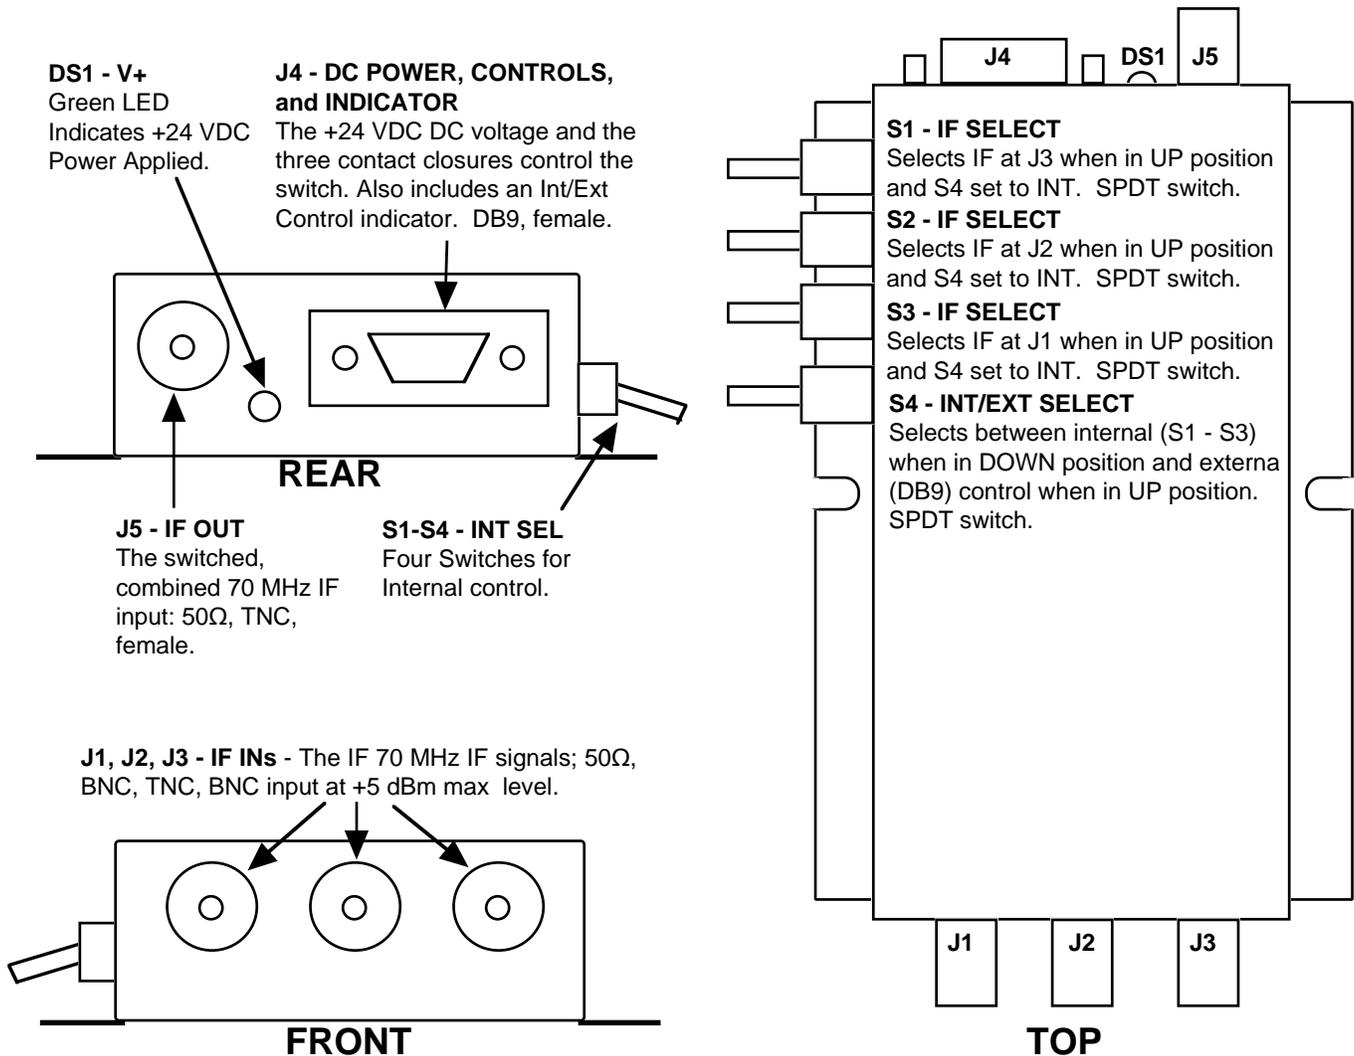

FIGURE 2.3 70421 Input, Output, Power LED, Control
A green LED indicates presence of DC power. Switch S4 selects either internal (INT) control using toggle switches S1-S3 or external (EXT) control using the DB9 connector, J4. Closures to ground at pins 1, 2, and 3 of J4 will deselect inputs at J3, J2, and J1 respectively (only when switch S4 is set to EXT). An open circuit or +5VDC at pins 1, 2, and 3 of J4 will select IF inputs at J3, J2, and J1, respectively. Toggle switches S1, S2, and S3 may also be used (only when switch S4 is set to INT) to select (UP) and deselect (DOWN) inputs at J3, J2, and J1 respectively (See Figure 2.3. and Table 2.1).
Figure 2.3 and Table 2.1 show the 70421 input and output signals.
4. Connect +5 dBm, maximum, 70 MHz \pm 20 MHz signals to the IF IN connectors, J1, J2, and/or J3 (Figure 2.3).
5. Connect the IF OUT, J5 (Figure 2.3), to the external equipment.